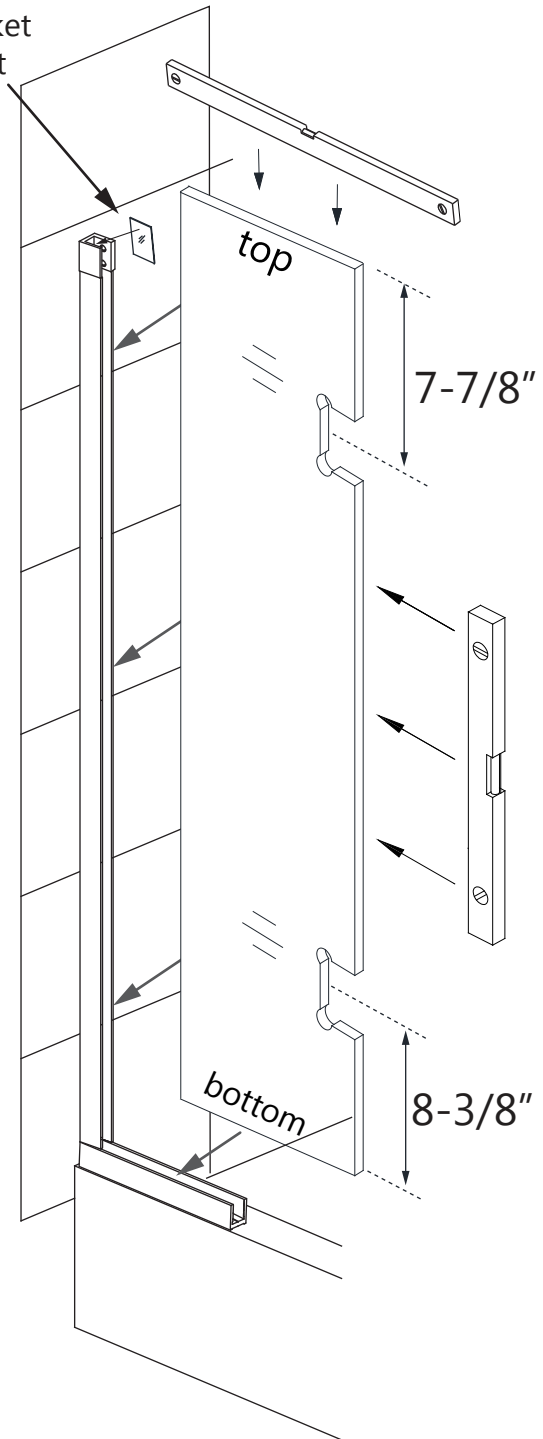

Fig 10
8. Install the **Hinge Panel Glass (#32)** into the U-channel, checking for level and plumb. Install the gasket into the **Hinge Panel Glass Bracket**. **(Note:** Make sure the top of the hinge panel glass is at the top). **(Fig 10)**